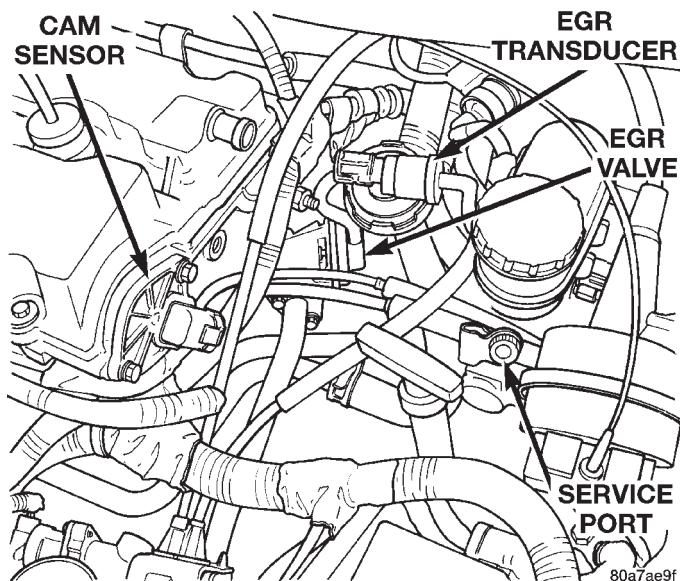
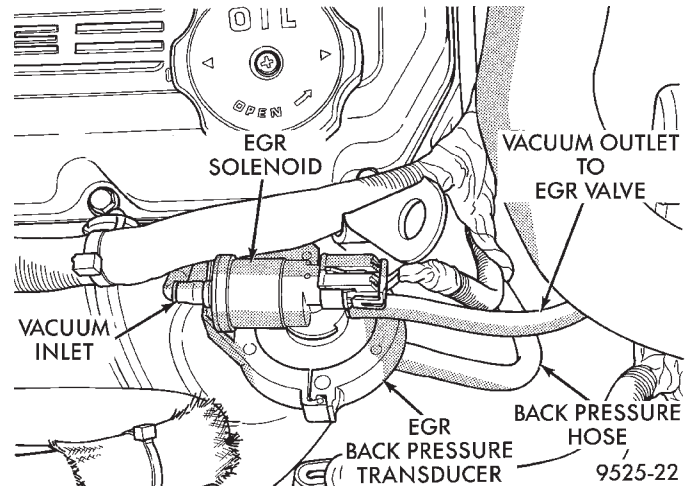

Fig. 48 Electronic EGR Transducer—2.4L Engine
Fig. 49 Electronic EGR Transducer—2.5L Engine
(16) Check electrical connector at Electronic EGR Transducer. Inspect vacuum and back pressure hoses at the solenoid and transducer for leaks (Fig. 48) or (Fig. 49).